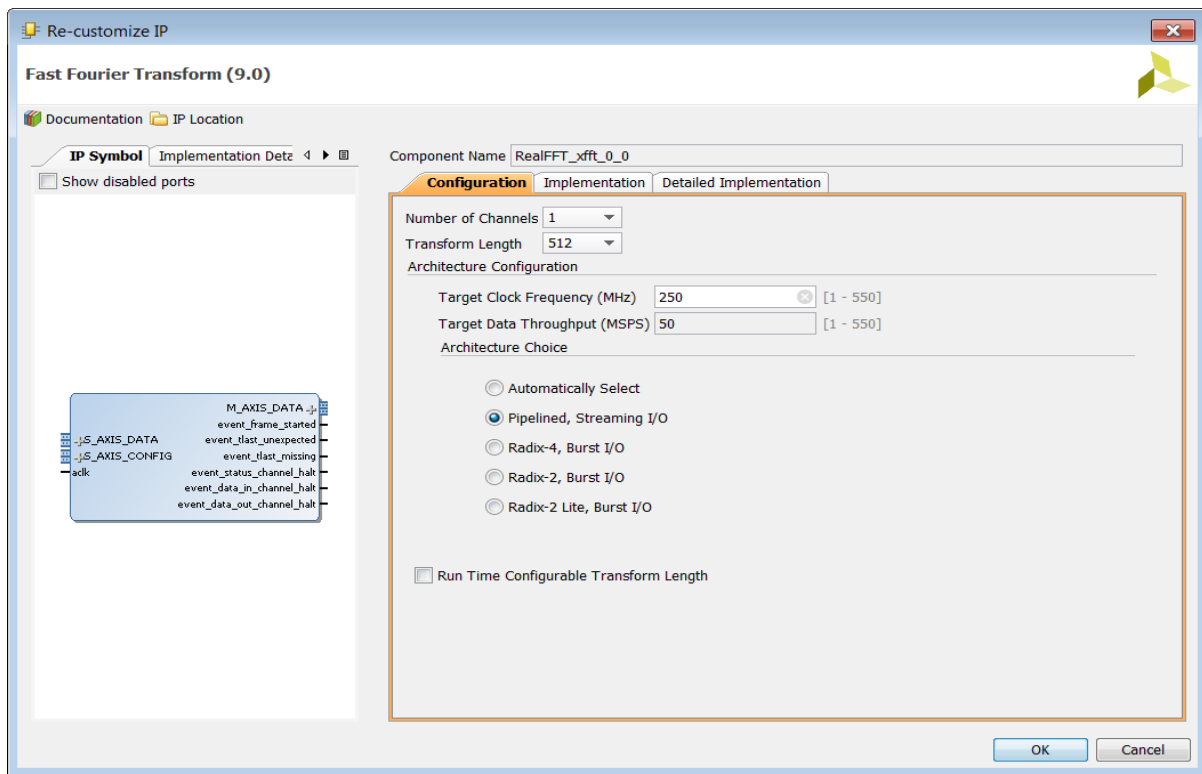

Figure 9-14: Xilinx FFT Configuration
4. On the **Configuration** tab (Figure 9-14):